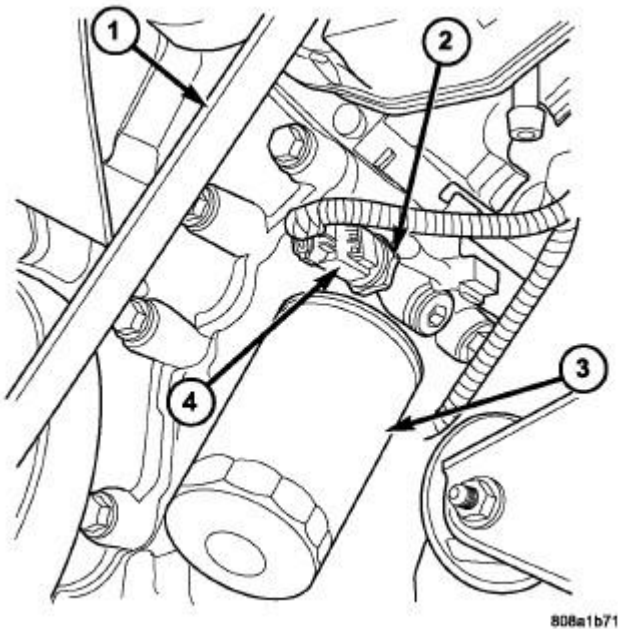

Fig. 139: Belt, Oil Pressure Sensor, Oil Filter & Connector
4. Disconnect oil pressure sender wire (4).
5. Remove the pressure sender (2). Refer to **Fig. 139**.